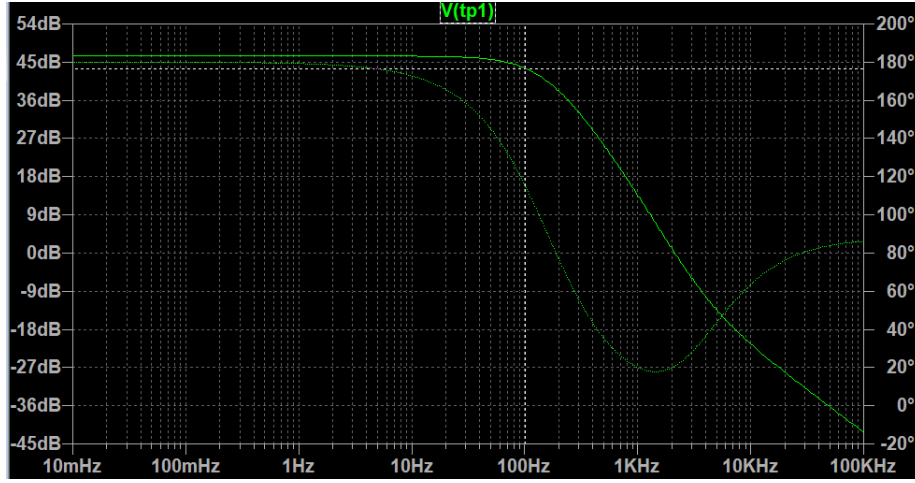
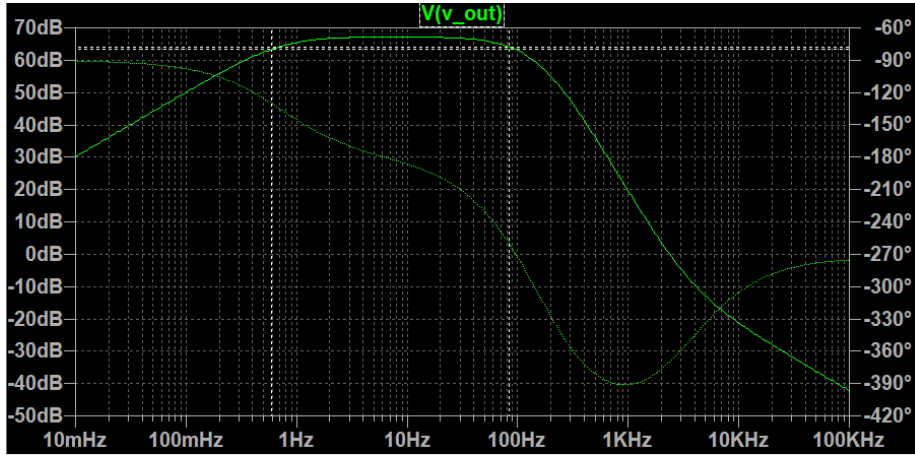

Figure 6: Output from instrumentation amplifier and low pass filter
Figure 7: Output from second gain stage and band pass filter.
To verify that performance of the circuit match the design criteria in terms of the gain and cut-off frequencies various simulators can be used. To this purpose we have used an analog electronic circuit simulator LTSpice to simulate the Signal conditioner circuit. Note, that the isolation amplifier was excluded from the model. The simulation results, i.e., the gain and cut off frequency for the instrumentation amplifier are shown in Figure 6. The output from the second gain stage and band pass filter is shown in Figure 7. To make the readouts easier, we put cursors at the 3dB point in both figures.
1. Determine the simulated gain and the cut-off frequency for both stages of the circuit as provided in Figures 6 and 7.